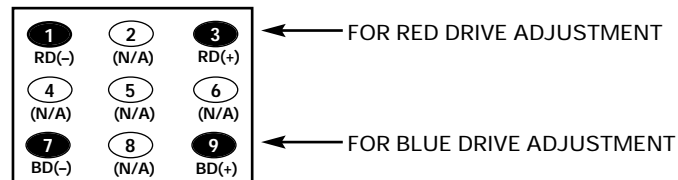

Figure 6. Remote Control Number keys' functions in Service Menu NO. AF DRV
14. Adjust Red and Blue Drive Levels alternately with 1, 3, 7, or 9 key to produce normal black and white picture in highlight areas. See Figure 6.